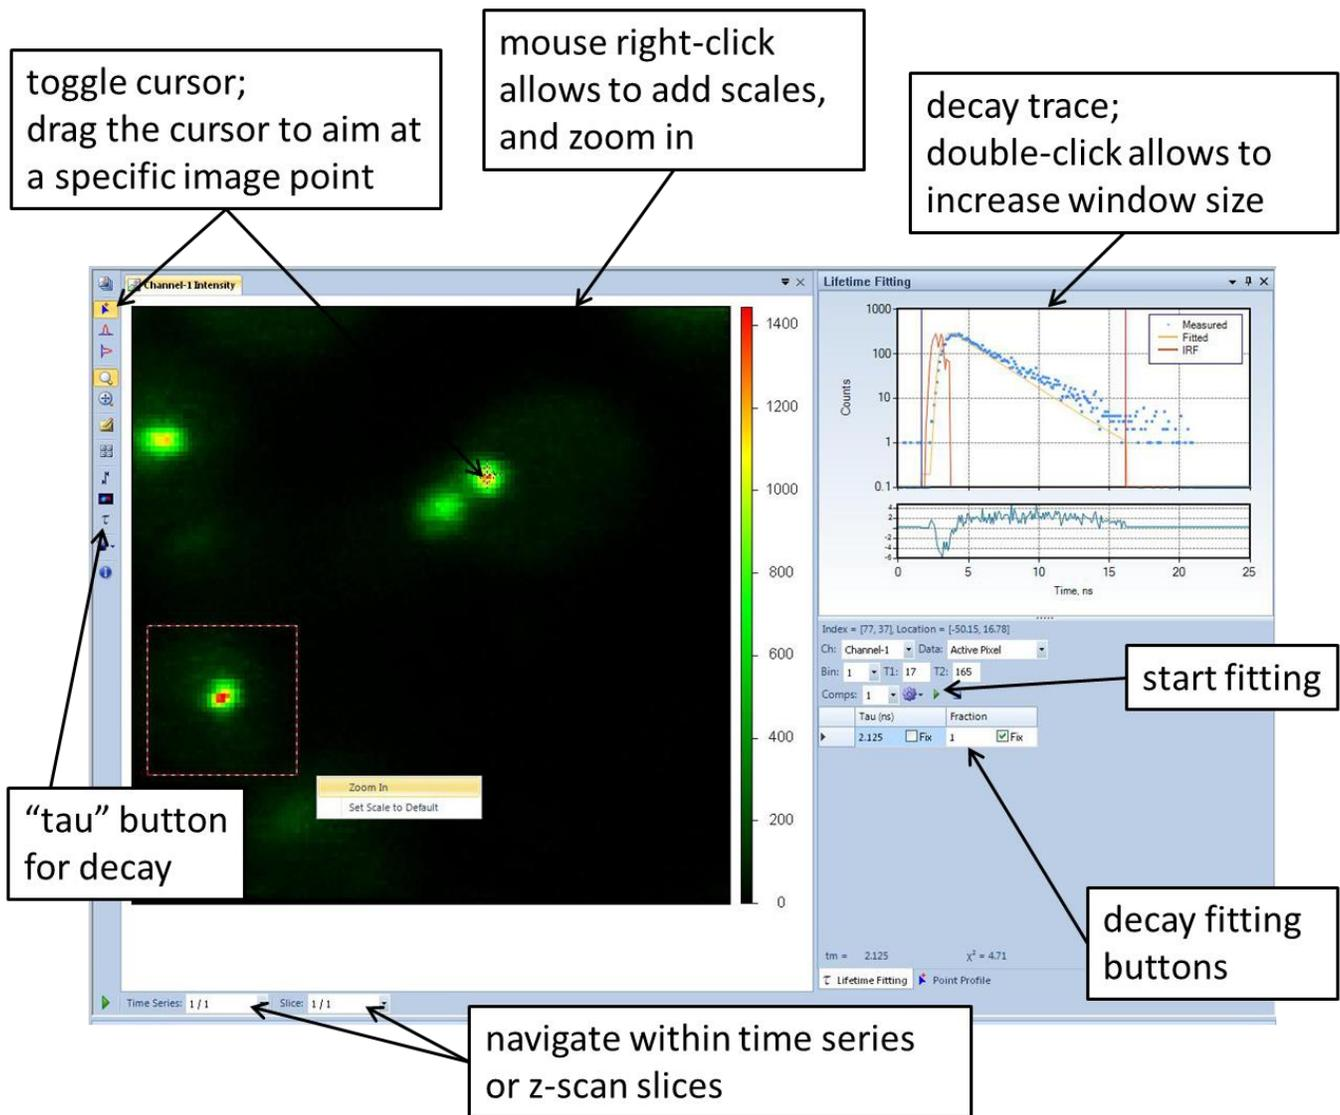

Fig. 7: FLIM measurement
6. Start the measurement. **Fig. 7** shows a sample FLIM measurement (*TD-FLIM workspace*).